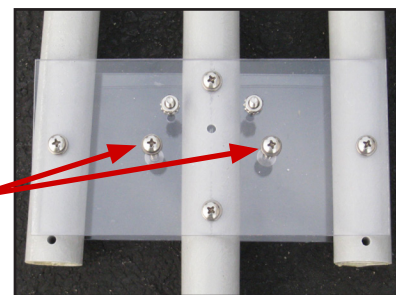

Fig. 57
- Remove the two (2) fasteners that are indicated in Fig. 57.